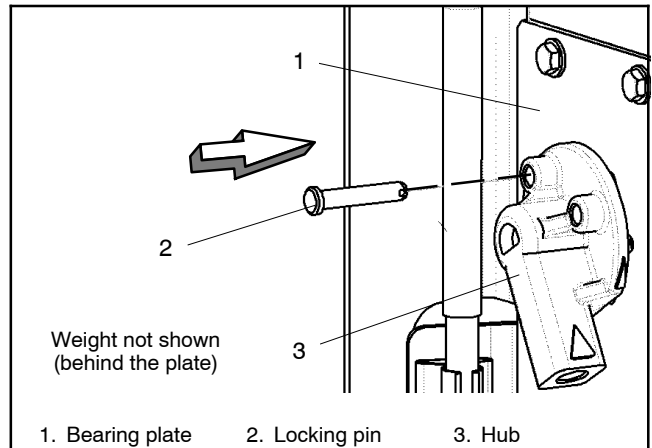

Figure 7-10 Weight Locking Pin
3. Insert the weight locking pin. To prevent the operator from moving during disassembly, insert the locking pin through the hub and into the bearing plate. See Figure 7-10.
Note: To prevent personal injury, do not attempt to remove the clevis pin until the weight is locked in the emergency position (step 3, Figure 7-10).